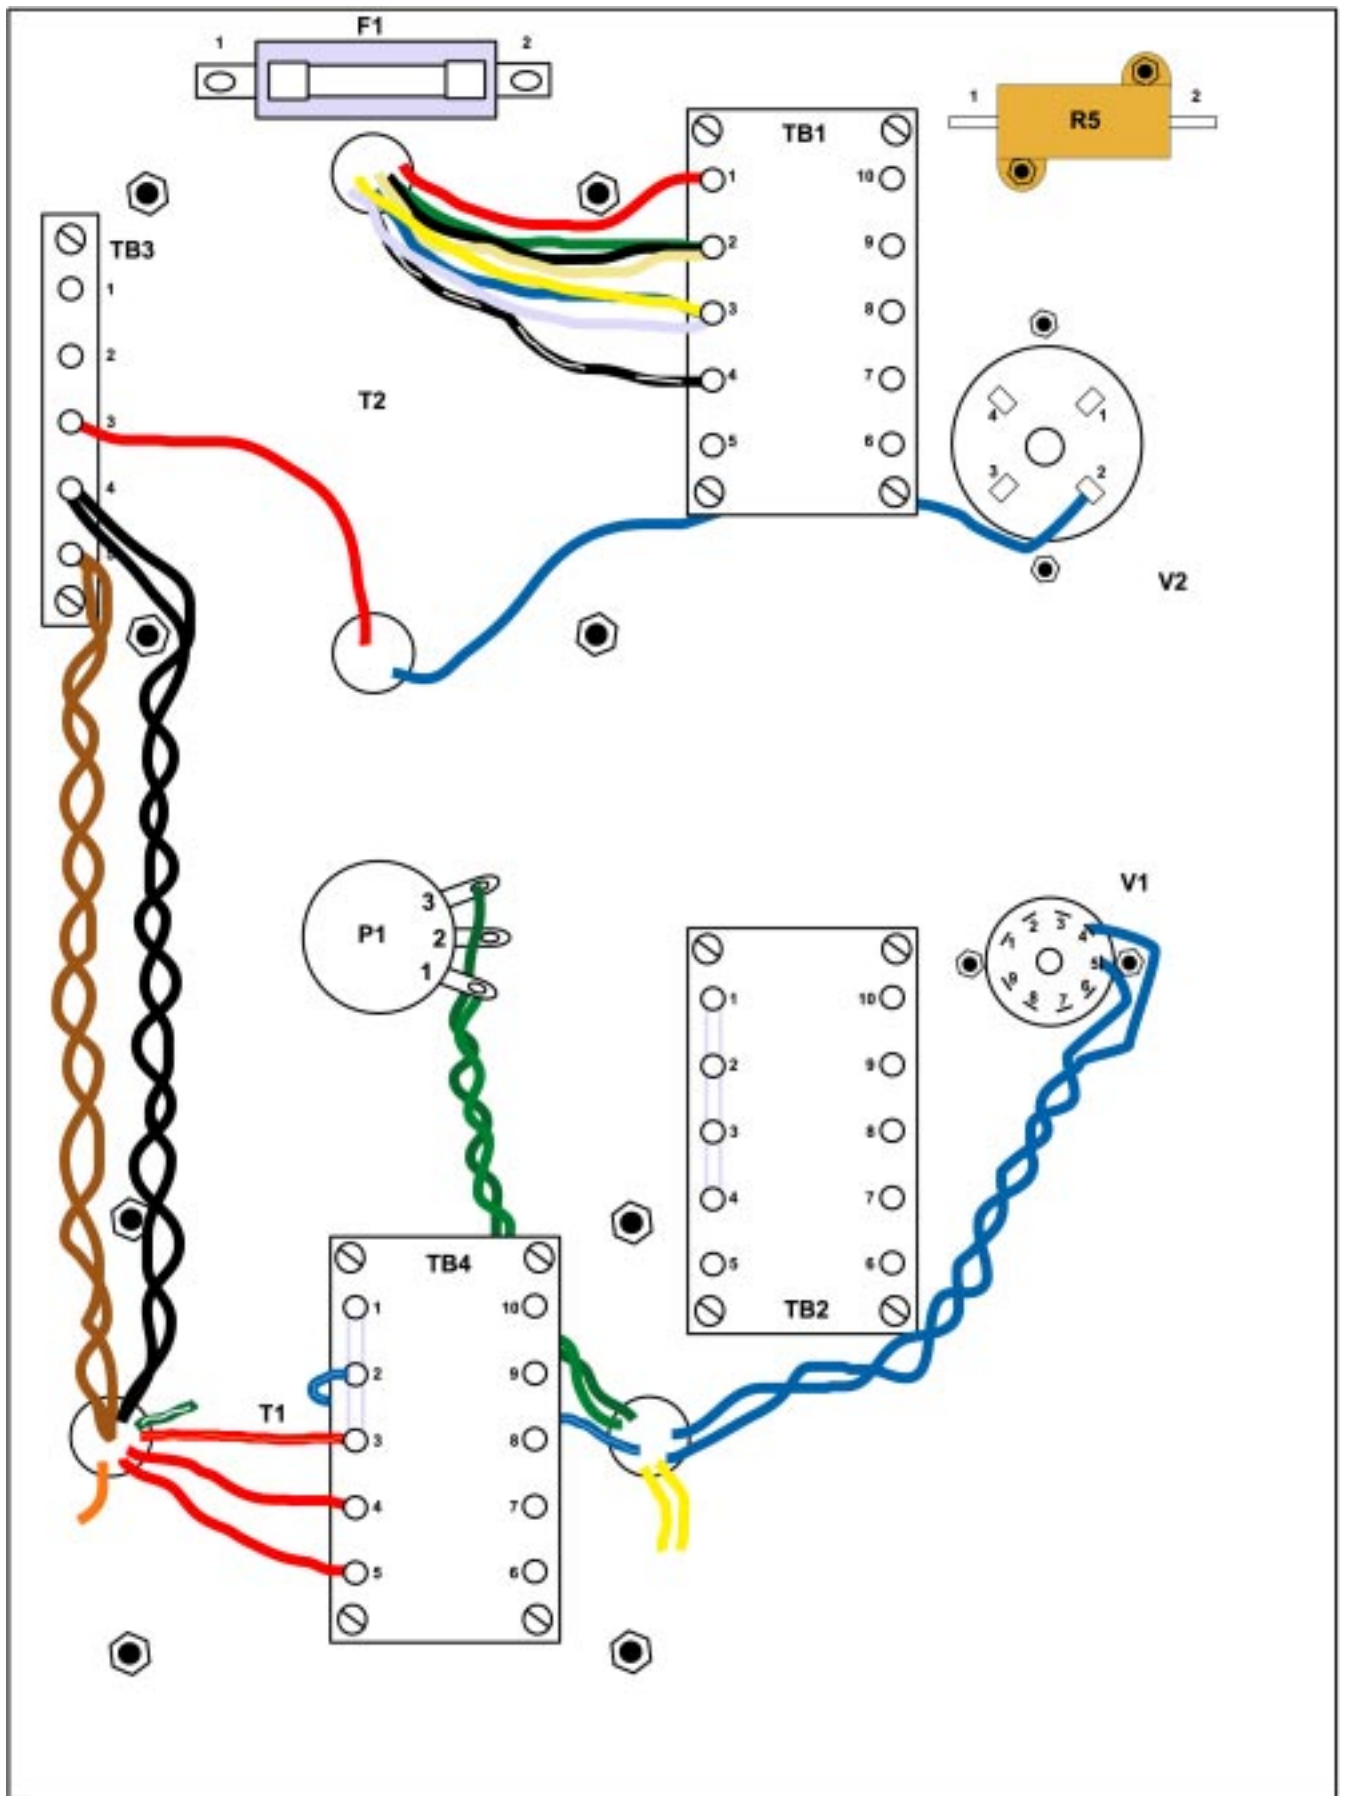

Figure 3
2) Mount the output transformer T2 and the power transformer T1 using the supplied hardware. It is generally easiest to do this by laying the chassis on a flat surface and feeding the transformer wires down through their respective holes. Referring to figure 3 and identifying the location of the transformer lead colors will give you an indication of which direction to orient the transformers when mounting them onto the top plate. **Be careful not to scratch the plate surface with the transformer edges or your tools.** Secure the transformers to the chassis using the button head screws, brass washers and brass nuts supplied in the plastic bag marked “H/W1”.
There are two blue leads from transformer T1. Twist these two leads together using approximately 2 twists per inch, route them as shown in figure 3, and solder one blue lead to V1-4 and the other lead to V1-5. These leads can also be routed under TB2.
Connect the blue with white striped lead of transformer T1 to TB4-2 as shown in figure 3.
There are two green leads from transformer T1. Twist these two leads together using approximately 2 twists per inch, route as shown in figure 3, and solder one green lead to P1-1 and the other lead to P1-3.
4) Connect the T1 transformer primary leads based upon your ac voltage requirements. Refer to figure 3 and the instructions below (figure 3 depicts a 120Vac connection).
Refer to the table below for the output transformer coding. The output impedances are selected by interconnecting the eight color coded secondary leads as shown below. Figure 3 depicts the connection for 8 ohms, however the terminals of TB1 can be used for connecting any of the configurations below. If you decide to shorten the output leads of the transformer T2, the red enamel coating on the wires must be removed before soldering to the terminals. This can be easily done by scraping with a razor blade.
Locate the bare uninsulated silver wire. Wrap a piece of the wire tightly around terminals TB2-1, TB2-2, TB2-3 and TB2-4 as shown in figure 3. Wrap another piece of the wire tightly around terminals TB4-1, TB4-2 and TB4-3 as shown in figure 3. Now make a solder connection between each of the terminals and the wires.